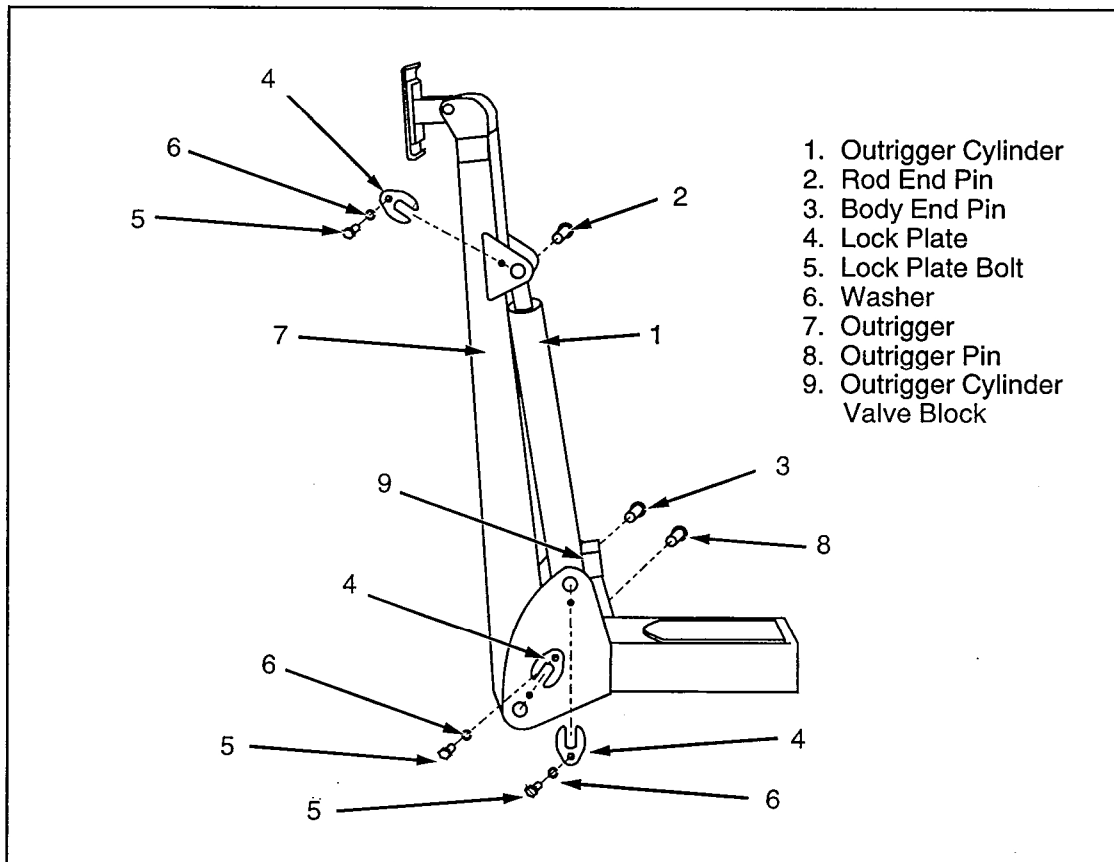

Figure 2
2. Remove the securing bolts #5 and washers #6 from the three pin lock plates. (fig. 2)
3. Remove the three pin lock plates #4 (fig. 2).
4. Install supplied pin lock plates #4 (fig. 2).
5. Apply medium strength thread lock to lock plate securing bolt, install bolt #5 and washer #6 to each pin lock plate (fig. 2). Torque to 25 ft. lbs.